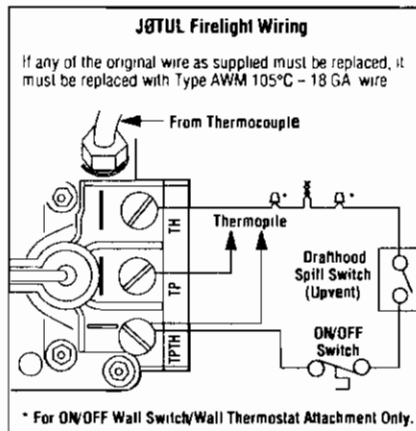

Figure 33
**Installing the Optional Remote Wall Switch or Wall Thermostat** – The standard JØTUL Firelight system comes from the factory wired as shown in Figure 33. Select a convenient location for the remote wall switch or wall thermostat and connect the wiring to the appliance.